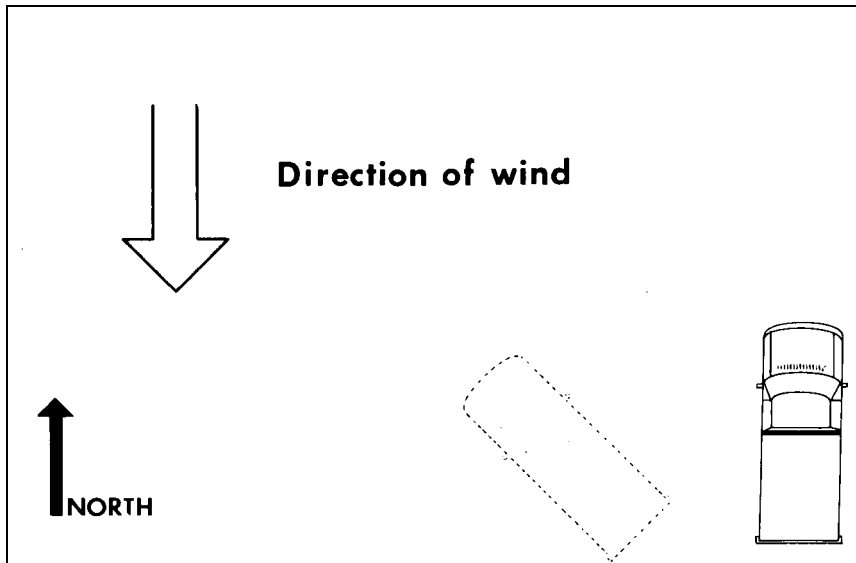

Figure 3-1 Vehicle Turn-Off
30. Vehicles should be parked on high ground to prevent freezing in muskeg, marsh, etc, during wet weather conditions or day-time thaw. During high winds, and heavy drifting conditions vehicles should be parked facing one quarter into the wind (Figure 3-1). This reduces the possibility of heavy snow drifts forming immediately behind the vehicle, which may cause difficulties in moving out. The heater units in the crew compartment can blow out because winds on the exhaust cause the heater flame to become extinguished when the setting is normal. Even with the setting at the high position, very high winds may cause the heater to malfunction. Vehicles or stores parked on a lake or sea ice should be moved frequently to prevent snow drift accumulation from depressing the ice below water level and flooding the storage area.